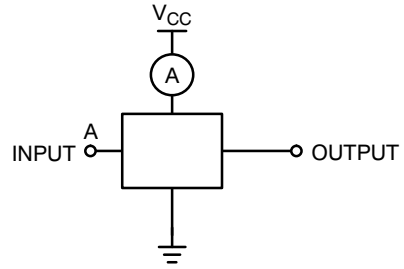

Figure 2. I_{CCD} Test Circuit
5. C_{PD} is defined as the value of the internal equivalent capacitance which is derived from dynamic operating current consumption (I_{CCD}) at no output loading and operating at 50% duty cycle (see Figure 2). C_{PD} is related to I_{CCD} dynamic operating current by the expression: I_{CCD} = (C_{PD}) (V_{CC}) (f_{IN}) + (I_{CCD}static).